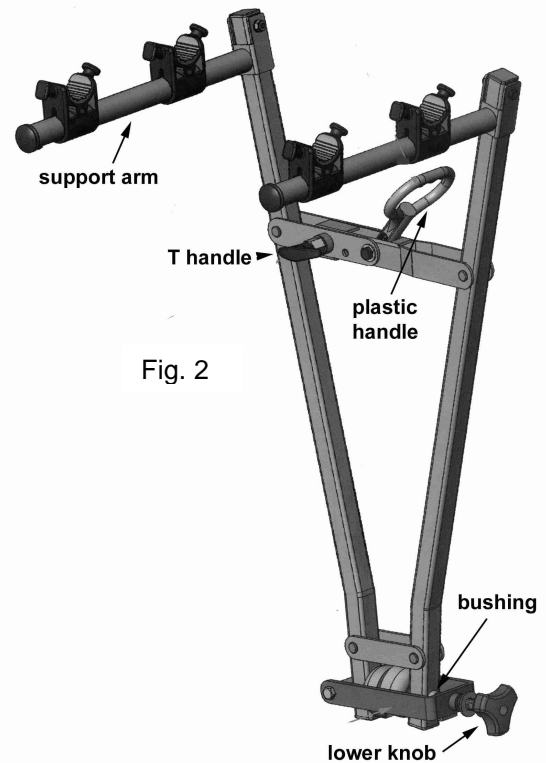

Fig. 3: Install spring-loaded T Handle
1. Install Spring Loaded T Handle per Fig. 3